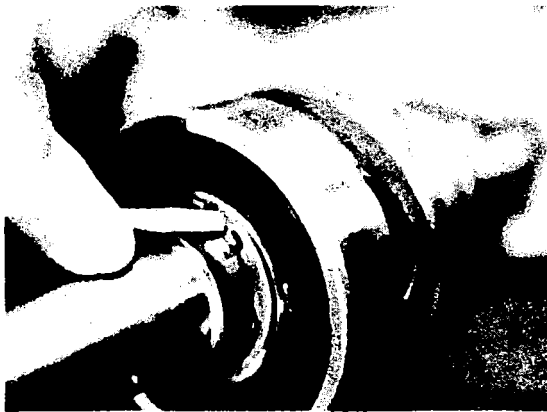

Figure 1.
2. Remove the outer retaining ring from the power rotor with a screw driver. (Fig. 1)